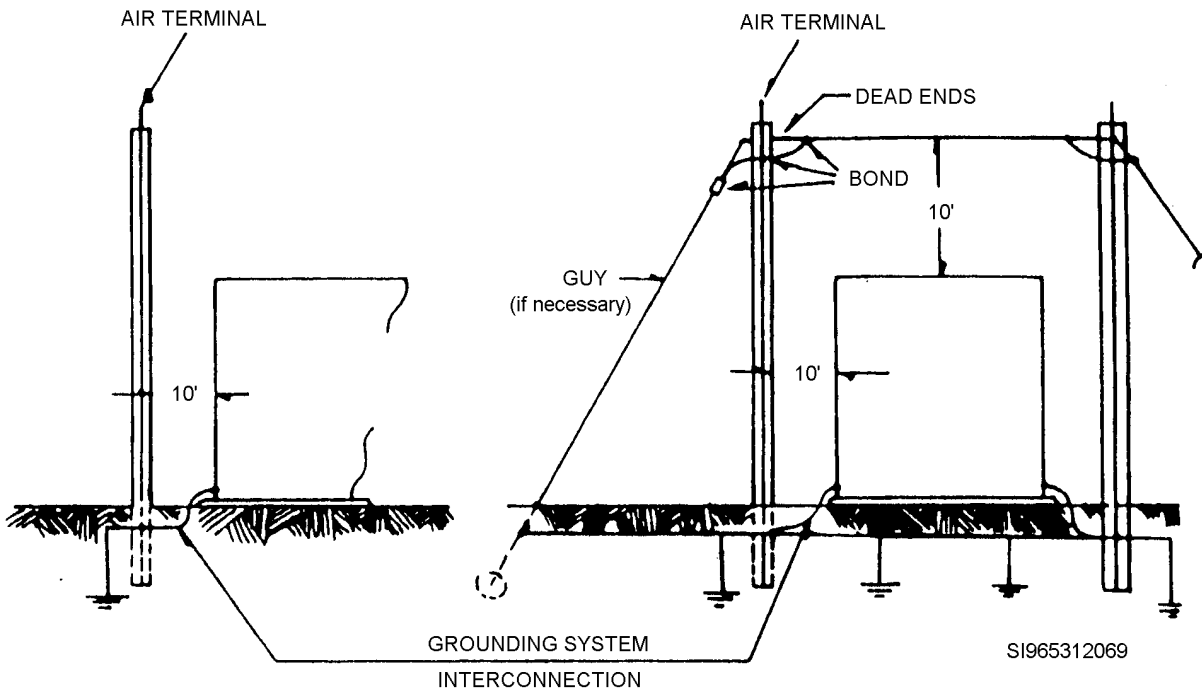

Figure 2, Mast and Overhead Shield Wire Protection System
- Figure 2 illustrates a mast and overhead shield wire protection system.